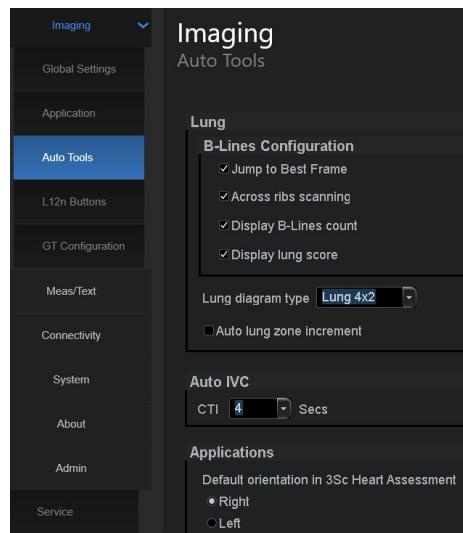

Figure 7-32. Auto Tools configuration tab
- If **Auto lung zone increment** has been configured (Figure 7-32) The active button advances by default to the next zone following **Image store**.